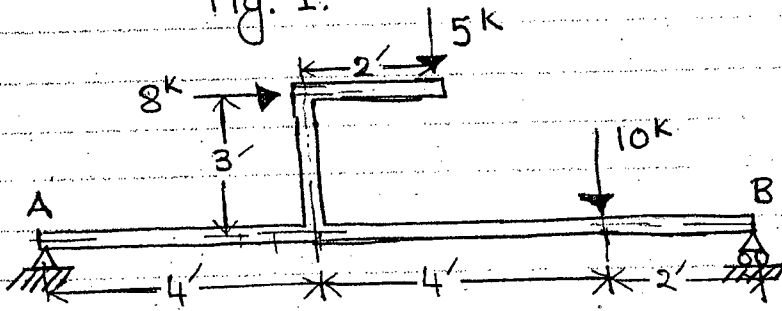

Fig. 2.
2. Draw axial force, shear force and bending moment diagram of beam AB shown in Fig. 2. (14)